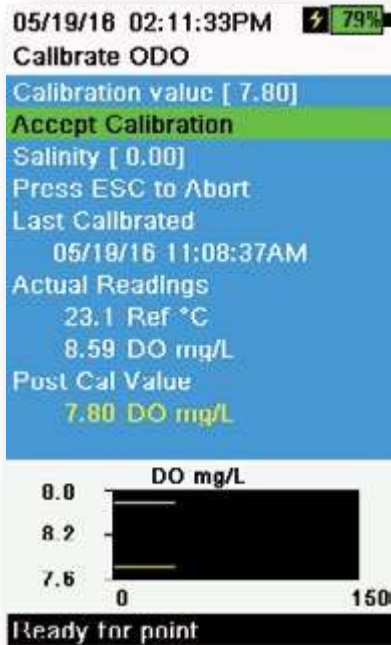

Figure 53 Calibrate ODO mg/L
5. Observe the actual measurement readings for stability (white line on graph shows no significant change for 40 seconds), then select **Accept Calibration** (Figure 53). "Calibration successful!" will be displayed in the message area.